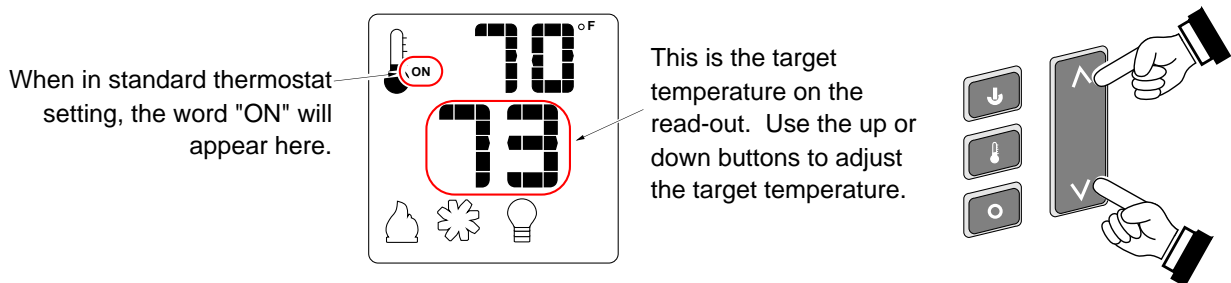

Figure 8
- STANDARD THERMOSTAT** - While in Standard Thermostat mode, the transmitter will turn the burner on and off to achieve the target temperature (see Figure 8 below). To adjust the target temperature, press the up and down buttons until a suitable temperature is achieved.